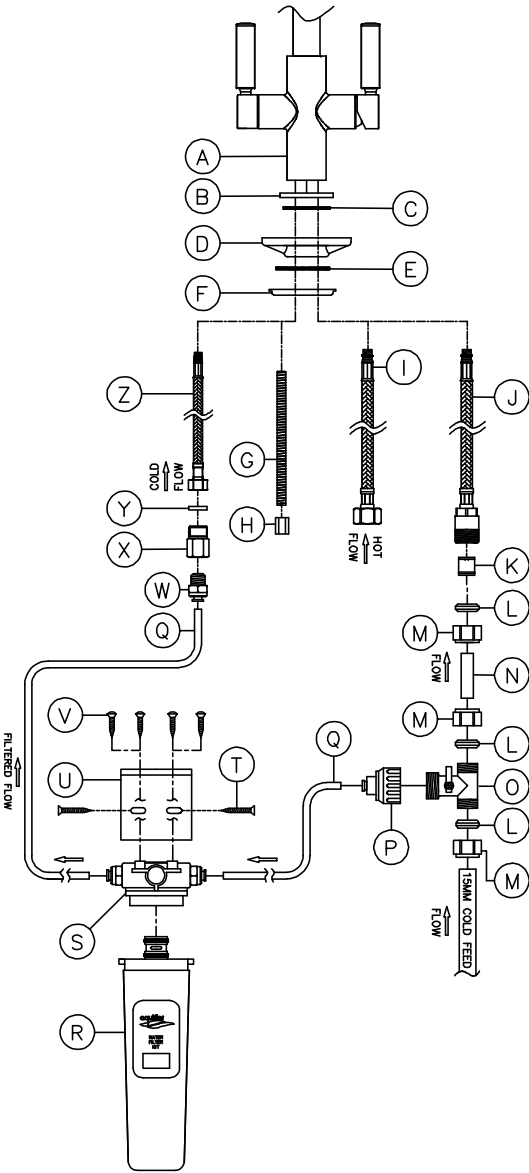

Fig.1
1. Screw the fixing stud (G) into the base on the tap (A). **Note: Fig.1 identifies the water inlets, viewed from the base of the tap.**
2. Place the base plinth (B) then the upper seal (C) on to the base of the tap (A).
3. Screw the Cold (J), Hot (I) and filter (Z) tail pipes into the base of the tap.
4. Place the tap (A) centrally and straight to the tap hole, passing the fixing stud (G) and tail pipes (J, I & Z) through the sink.
5. Pass rubber horseshoe (E) then the metal horseshoe (F) over the fixing stud (G). **Note: Only if the tap is to be fitted to a stainless steel sink then the white triangular plate (D) can be fitted where shown to improve the stability of the tap.**
6. Using a spanner tighten fixing nut (H) onto the fixing stud (G), a box spanner or small basin wrench will help if one is available.
7. Screw adaptor (X) to Filter tail pipe (Z) ensuring fiber washer (Y) is placed inside first (see drawing). **Note: We advise using PTFE tape on threaded section of adaptor (X) to make a good seal.**
8. Screw the pushfit fitting (W) into the adaptor nut (X). **Note: We recommend using PTFE tape (do not use sealing compound) on the thread of the pushfit fittings to make a good seal without applying excessive force (which may damage the plastic pushfit if overtightened).**
9. Attach the hot water tail pipe (I) to the water supply.
10. Attach the 3-way valve (O) to the cold water feed pipe using compression nut (M) and olive (L).
11. Attach the 3-way valve (O) to the cold water inlet pipe (J) using a short length of 15mm pipe, compression nut and olive (not supplied).